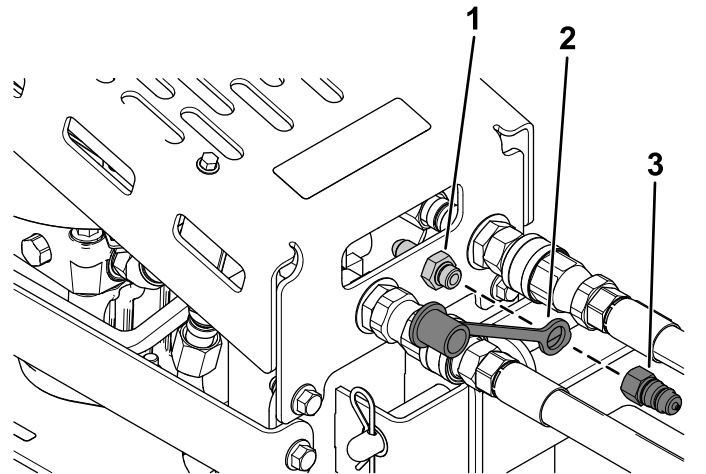

Figure 3
3. Install the dust cap over the bulkhead fitting and connect the quick-disconnect fitting to the bulkhead fitting (Figure 3).